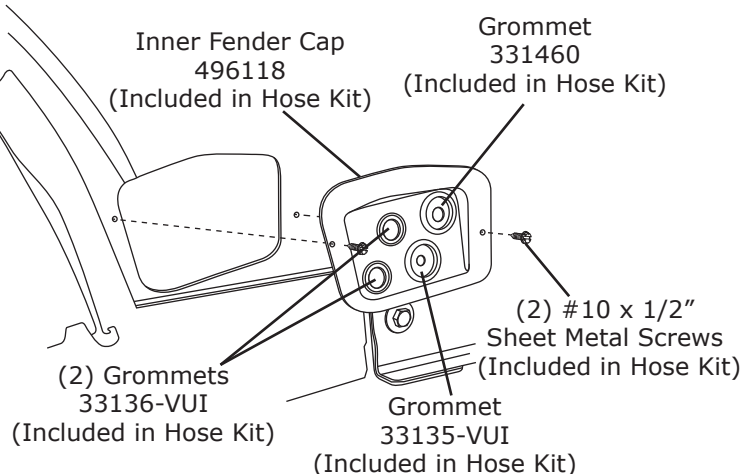

Figure 12a
2. Install (4) grommets in inner fender cap (See Figure 12a, below).
3. Install inner fender cap in wheel well side using (2) #10 x 1/2" sheet metal screws as shown in Figure 12a, below.